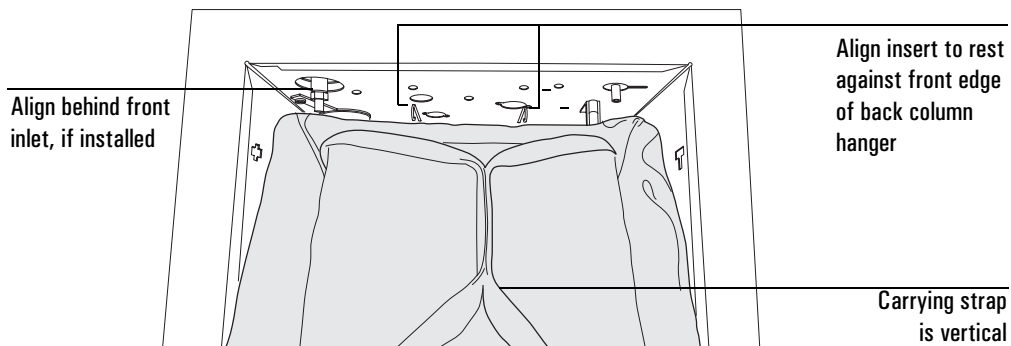

Figure 20 Installing the insert in front of the back column hanger
2. Orient the oven insert as shown in Figure 20 below. Tilt the upper edge away from you and insert it between the column fittings for the front inlet/detector and the back column hanger.